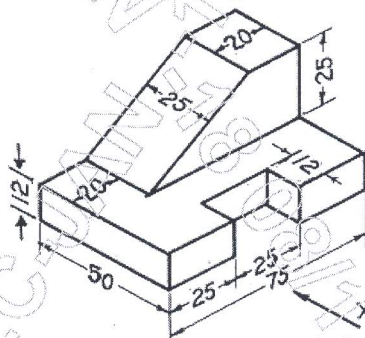

Figure.1
- Q.No.1** Figure.1 shows a machine component Draw the following views. a) Front View